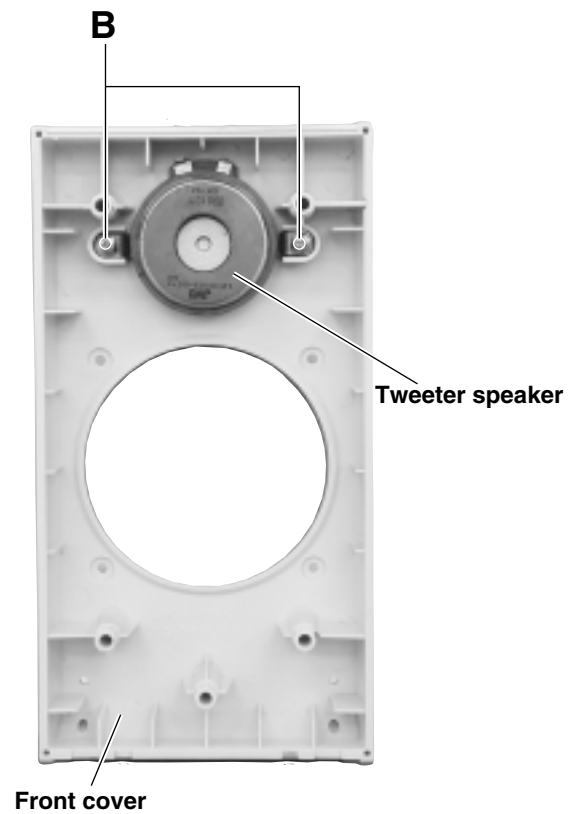

Fig.5
■ Removing the tweeter speaker (See Fig.5)